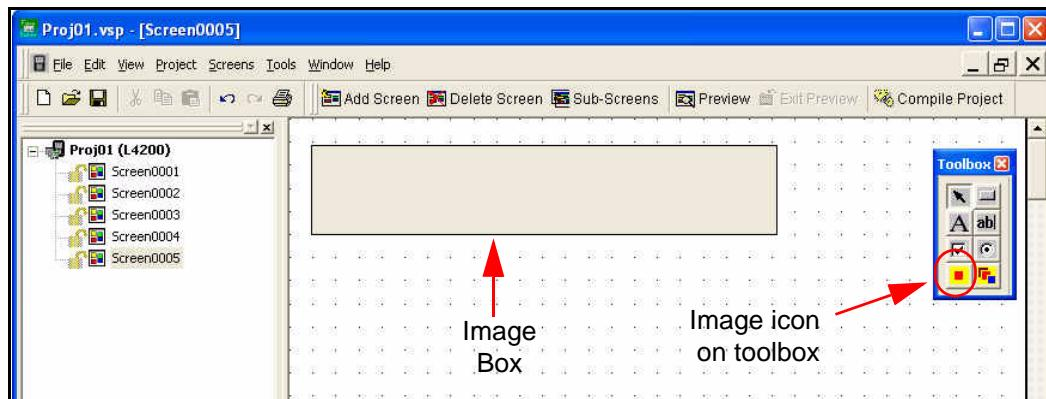

Figure 2-26 *Image Box*
2. Click the **Image** icon on the toolbox as shown in *Figure 2-26*.